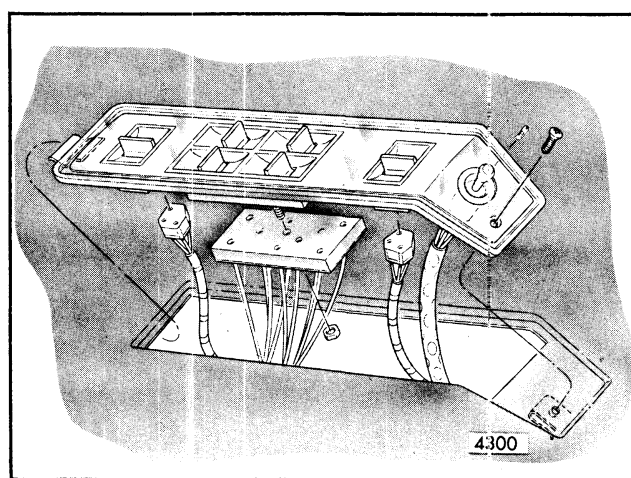

Fig. 5-7-Door Armrest Switch Cover Plate and Remote Mirror Cable Attachment
5. On styles equipped with switch cover plate in door arm rest, remove screws securing cover plate and disconnect switches and cigar lighter (if equipped) from wire harness connectors (Fig. 5-7).